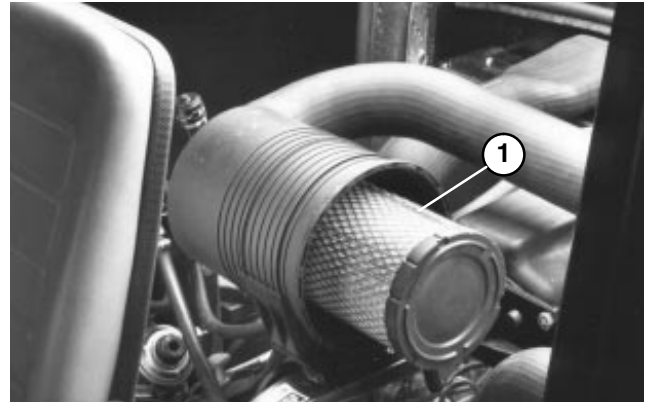

Figure 27
2. Gently slide primary filter (Fig. 27) out of air cleaner body to reduce the amount of dust dislodged. Avoid knocking filter against air cleaner body. **Do not remove safety filter.**